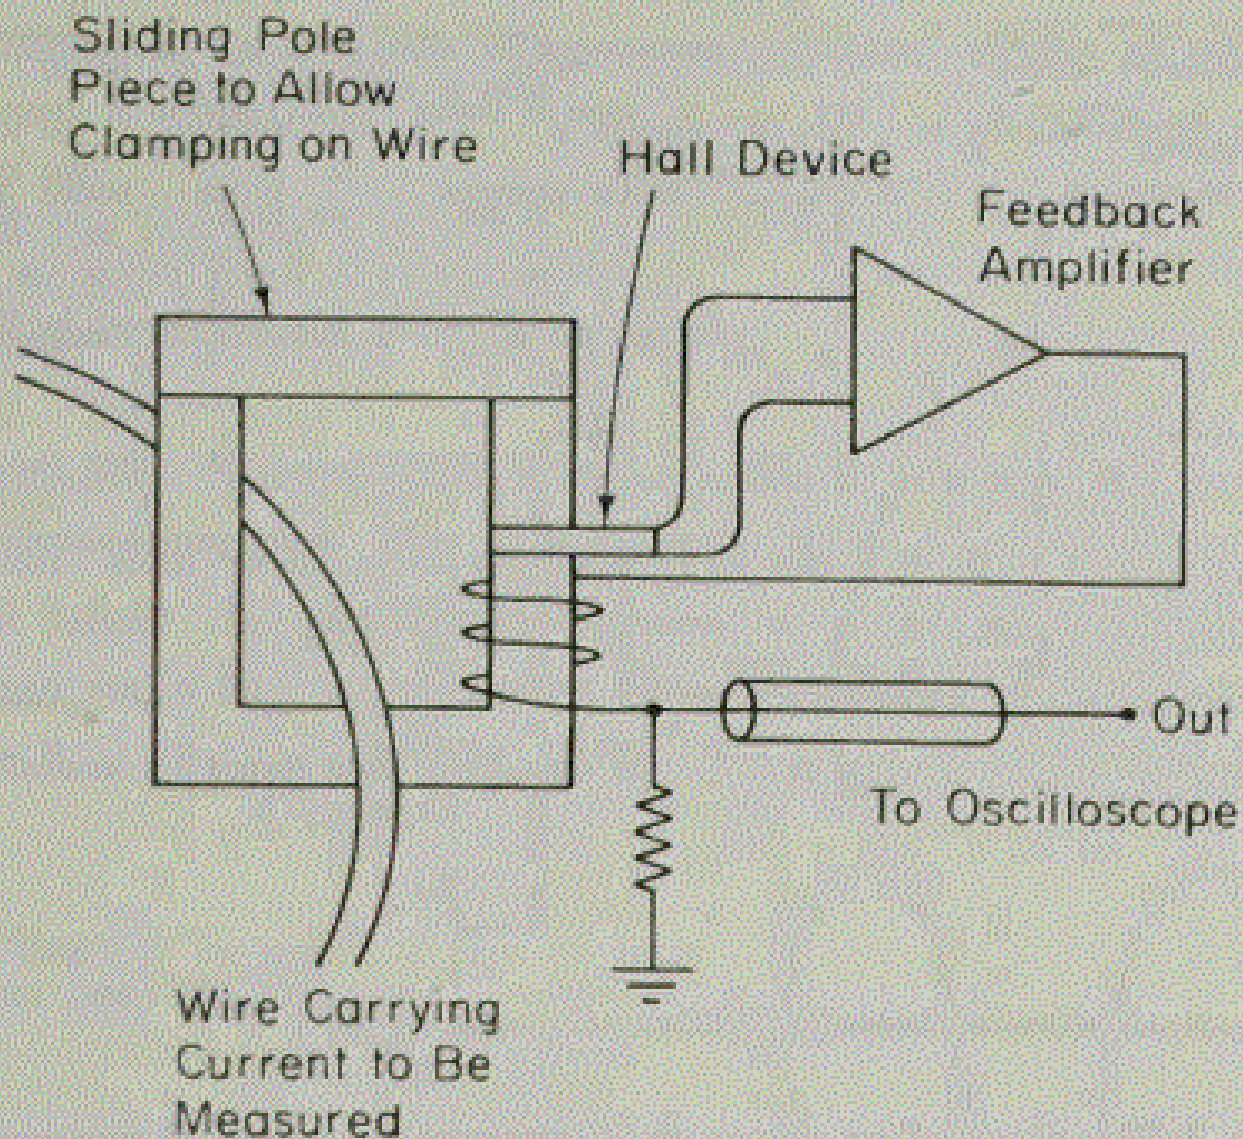

Figure 7-34 Current probe capable of measuring from dc to several megahertz.
- The current sensor consists of two parts, a conventional transformer for transforming alternating current to voltage, and a Hall effect device for converting direct current to a voltage, as shown in Fig. 7-34.